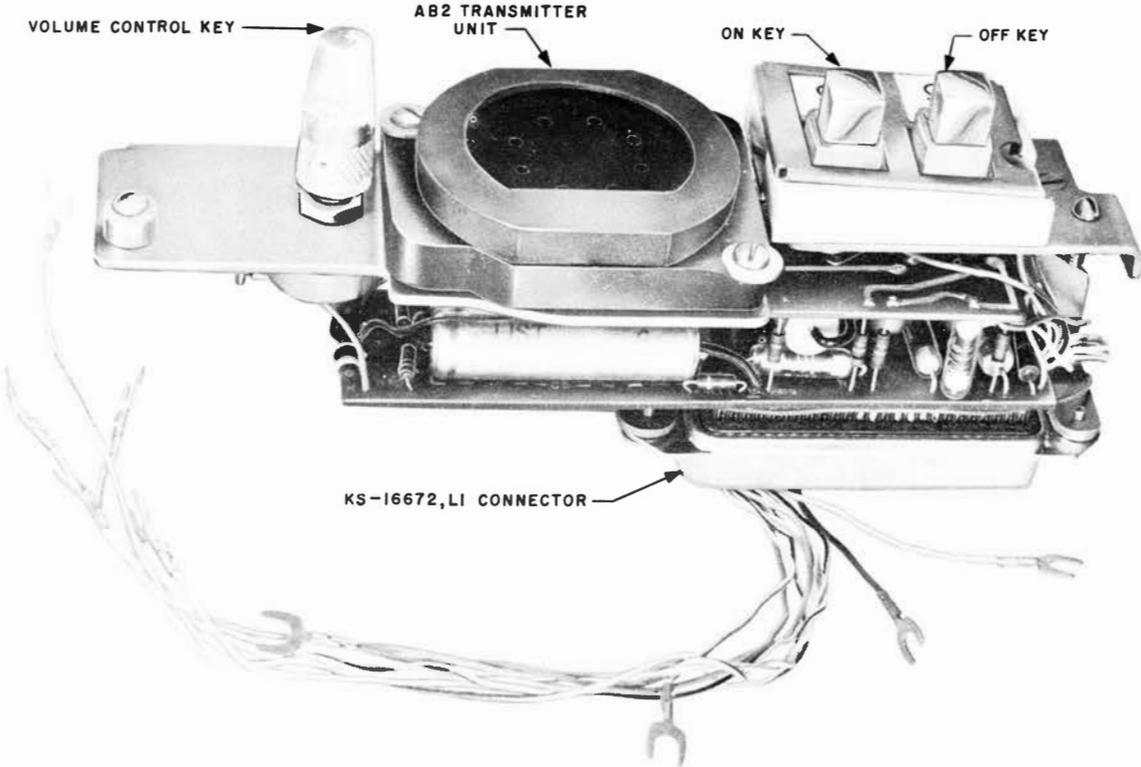

Fig. 8 - 667A Transmitter
3.09 The 667A transmitter module (see Fig. 8) is for use with the 3A speakerphone system and is essentially the same design as the 661A with the following exceptions: